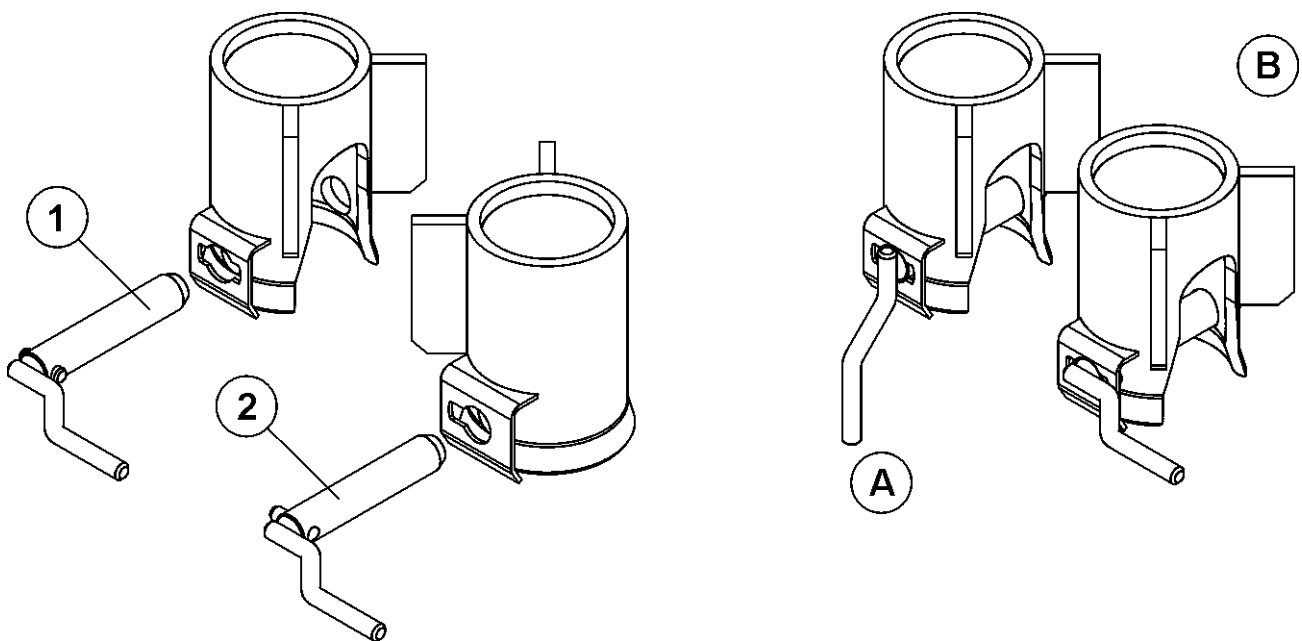

Fig. 9. Tipping pins
- Position drawbar eye at the correct height. Precise setting of drawbar height may be achieved by use of support wheel screw crank (figure 9).